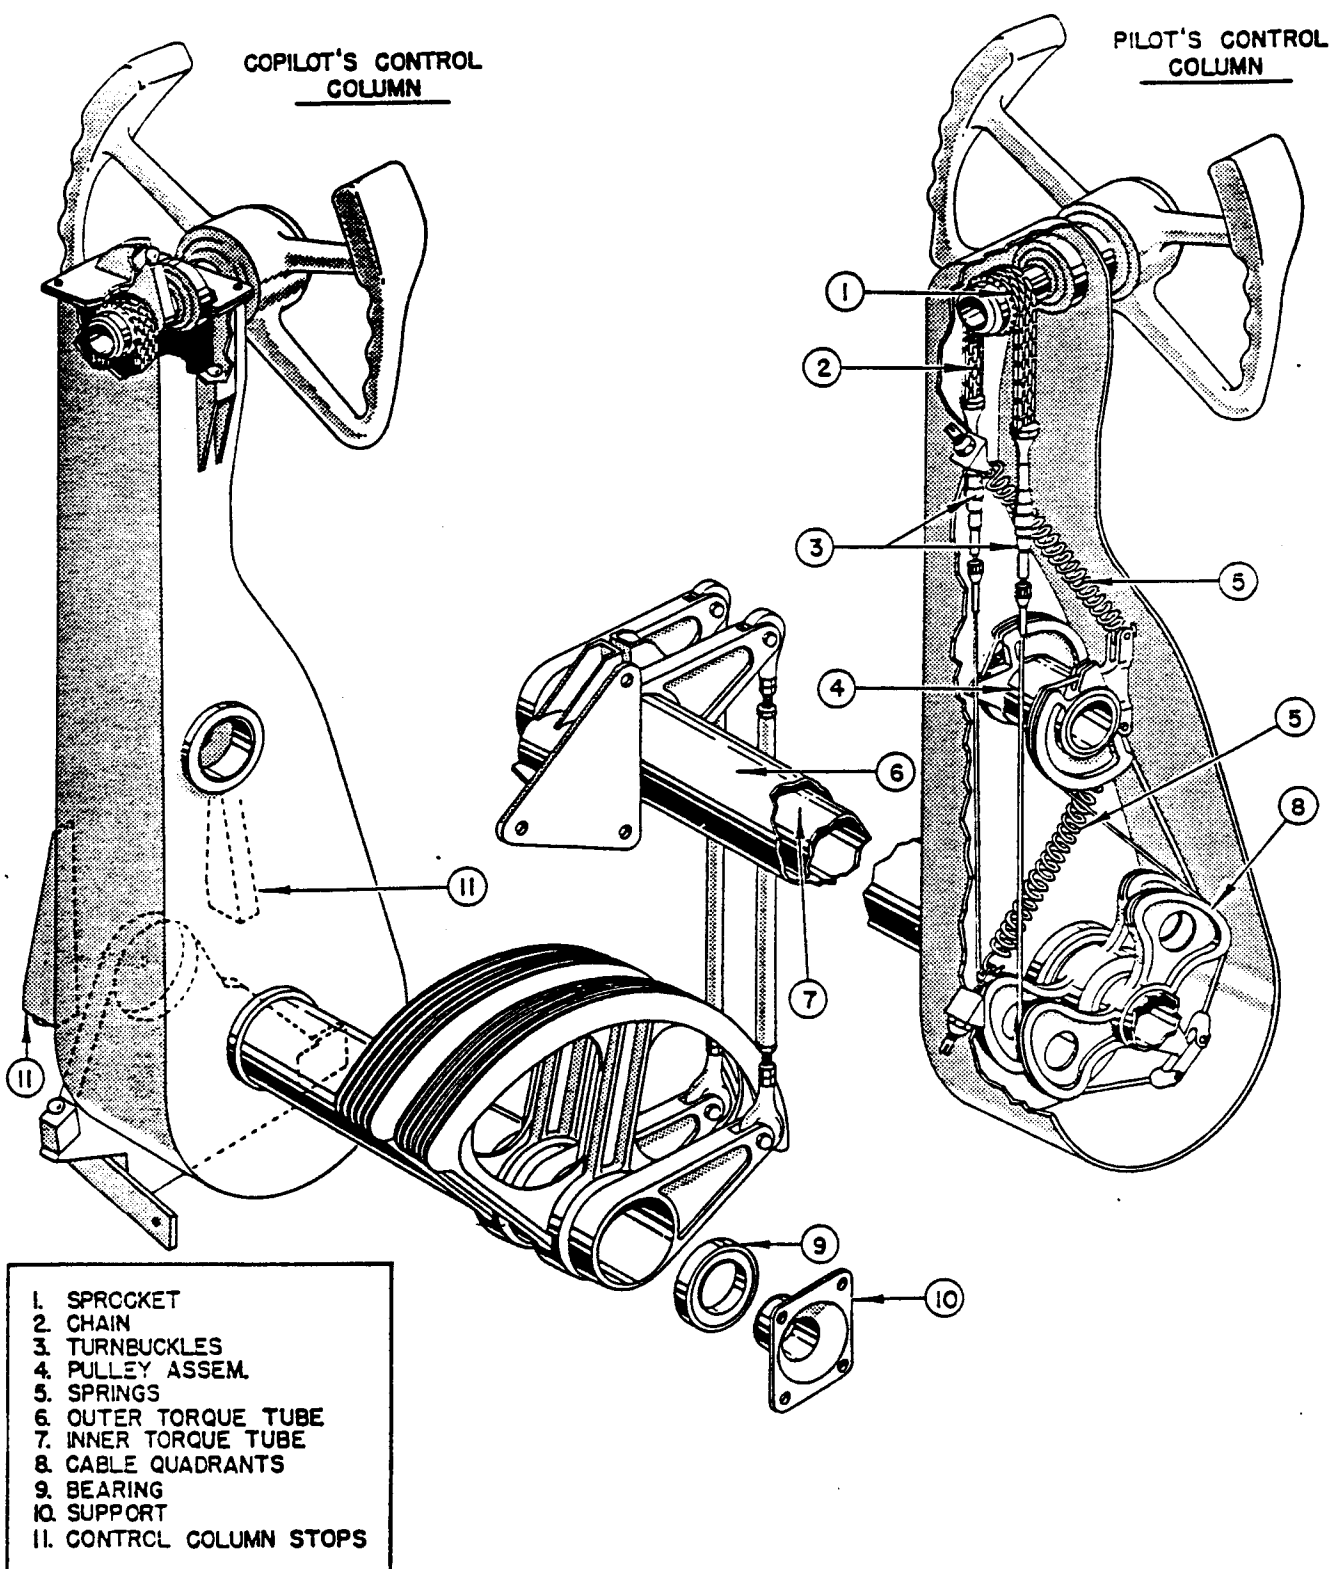

Figure 7. Control Columns
f. **CONTROL COLUMNS.** (See figure 7.)- Each control column is bearing-mounted on dual torque tubes and the ends of the torque tubes are supported by bearing assemblies that are bolted to the airplane structure. Cable quadrants, enclosed by the control column, are secured to the torque tubes. A chain, engaged with the control wheel shaft sprocket, is attached to the quadrants by means of cables and another set of cables from the quadrants are connected to pulleys at the center of the column. The manner in which these cables are attached enable the quadrants to be turned in opposite directions with the control wheel, or together in the same direction by moving the control column. Thus the control column may be moved and the control wheel turned at the same time, producing the same control effect with the elevons as that obtained with conventional ailerons and elevator. The control wheels are spring-loaded to the neutral positions and the columns are connected to a force bellows which provides "feel" to the operation of the columns.
(1) **REMOVAL OF CONTROL COLUMNS.** (See figure 7.)- Parts of either control column may be replaced without removing the column assemblies from the airplane. See paragraph (2) following. However, if removal of a column assembly is necessary, proceed as follows:
(2) **DISASSEMBLY OF CONTROL COLUMNS.** (See figure 7.)- The control wheel shaft, chain, cables, and pulley assembly may be disassembled from the column without removing a column assembly from the airplane.
(c) **TORQUE TUBE AND COLUMN ASSEMBLIES.** (See figure 7.)
(3) **ASSEMBLY OF CONTROL COLUMNS.** (See figure 7.)- Reinstall parts in the reverse order of their removal. Do not attempt adjustment of the columns until they have been installed in the airplane.
(a) Install the control columns in reverse of their removal procedures. (See figure 7.)